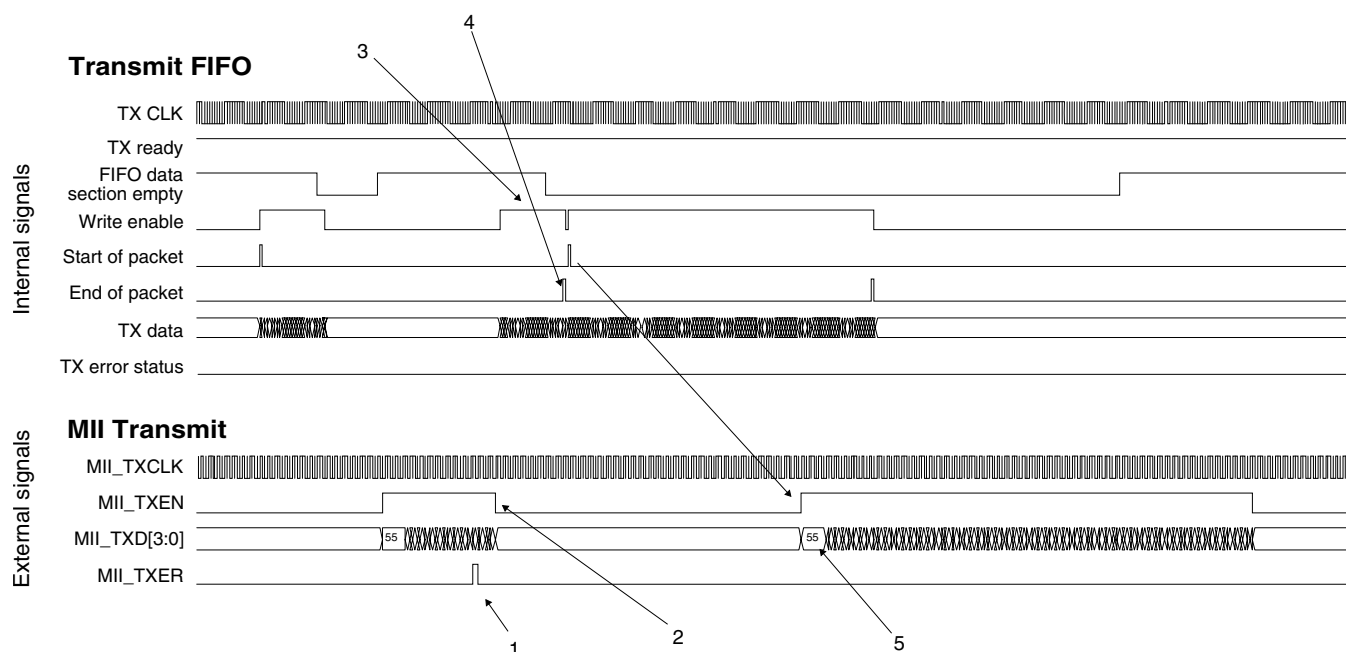

Figure 45-116. Transmit FIFO underflow protection
- Asserts the MII error signal (MII_TXER) (1 in Figure 45-116) to indicate that the fragment already transferred is not valid
- Deasserts the MII transmit enable signal (MII_TXEN) to terminate the frame transfer (2)